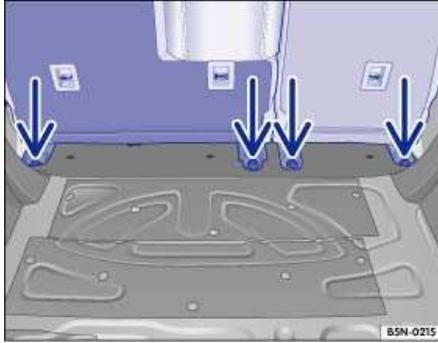

Fig. 66 Rear bench seat rear mountings.
- Remove the hexagon nuts ⇒ Fig. 66 (arrows) in the luggage compartment using the lug wrench.
- In the luggage compartment, tighten the hexagon nuts ⇒ Fig. 66 (arrows) with a torque wrench to 44 ft lbs. (60 Nm). If there is not a torque wrench available, tighten the hexagon nuts with the lug wrench and have the tightening torque checked as soon as possible by a qualified workshop ⇒ .